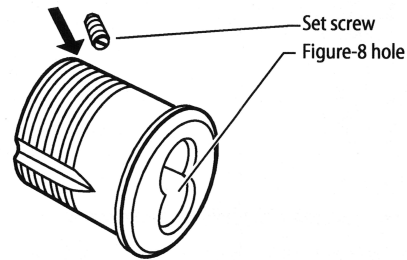

Figure 1 Threading the set screw into the cylinder
- 1 From the outside of the cylinder, thread the set screw, slotted head first, as shown in Figure 1.